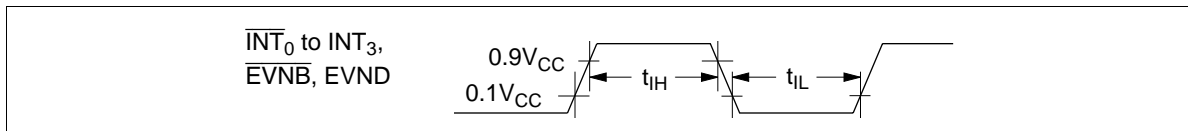

Figure 95 Interrupt Timing
5. Refer to figure 95. The t_{cyc} unit applies when the MCU is in standby or active mode. The t_{subcyc} unit applies when the MCU is in watch or subactive mode.